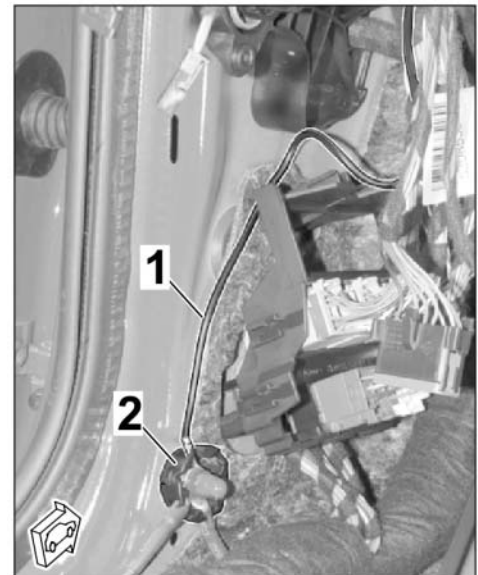

Figure 16
3.2.6 Route BK; 0.5² line (terminal 31) to ground pin MB21 or MB22, shorten it and install it on ground pin using cable ring eyelet A6 (⇒ *Figure 16*).